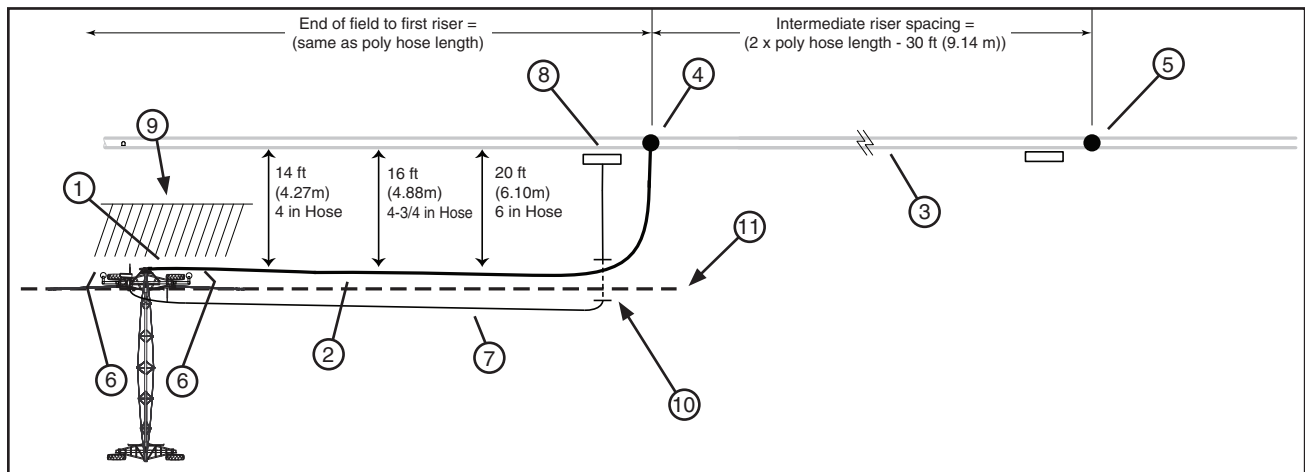

Figure 45-1 Side Inlet Hose Layout
When using the swivel inlet, position the hose and cord as shown. See figure 45-1.
- With the linear cart at the edge of the field, position the entire length of the first hose, depending on hose diameter. Place the hose in line with or slightly outside of the swivel elbow. After the first pass the hose will be positioned properly and does not need to be moved again. See figures 45-1.